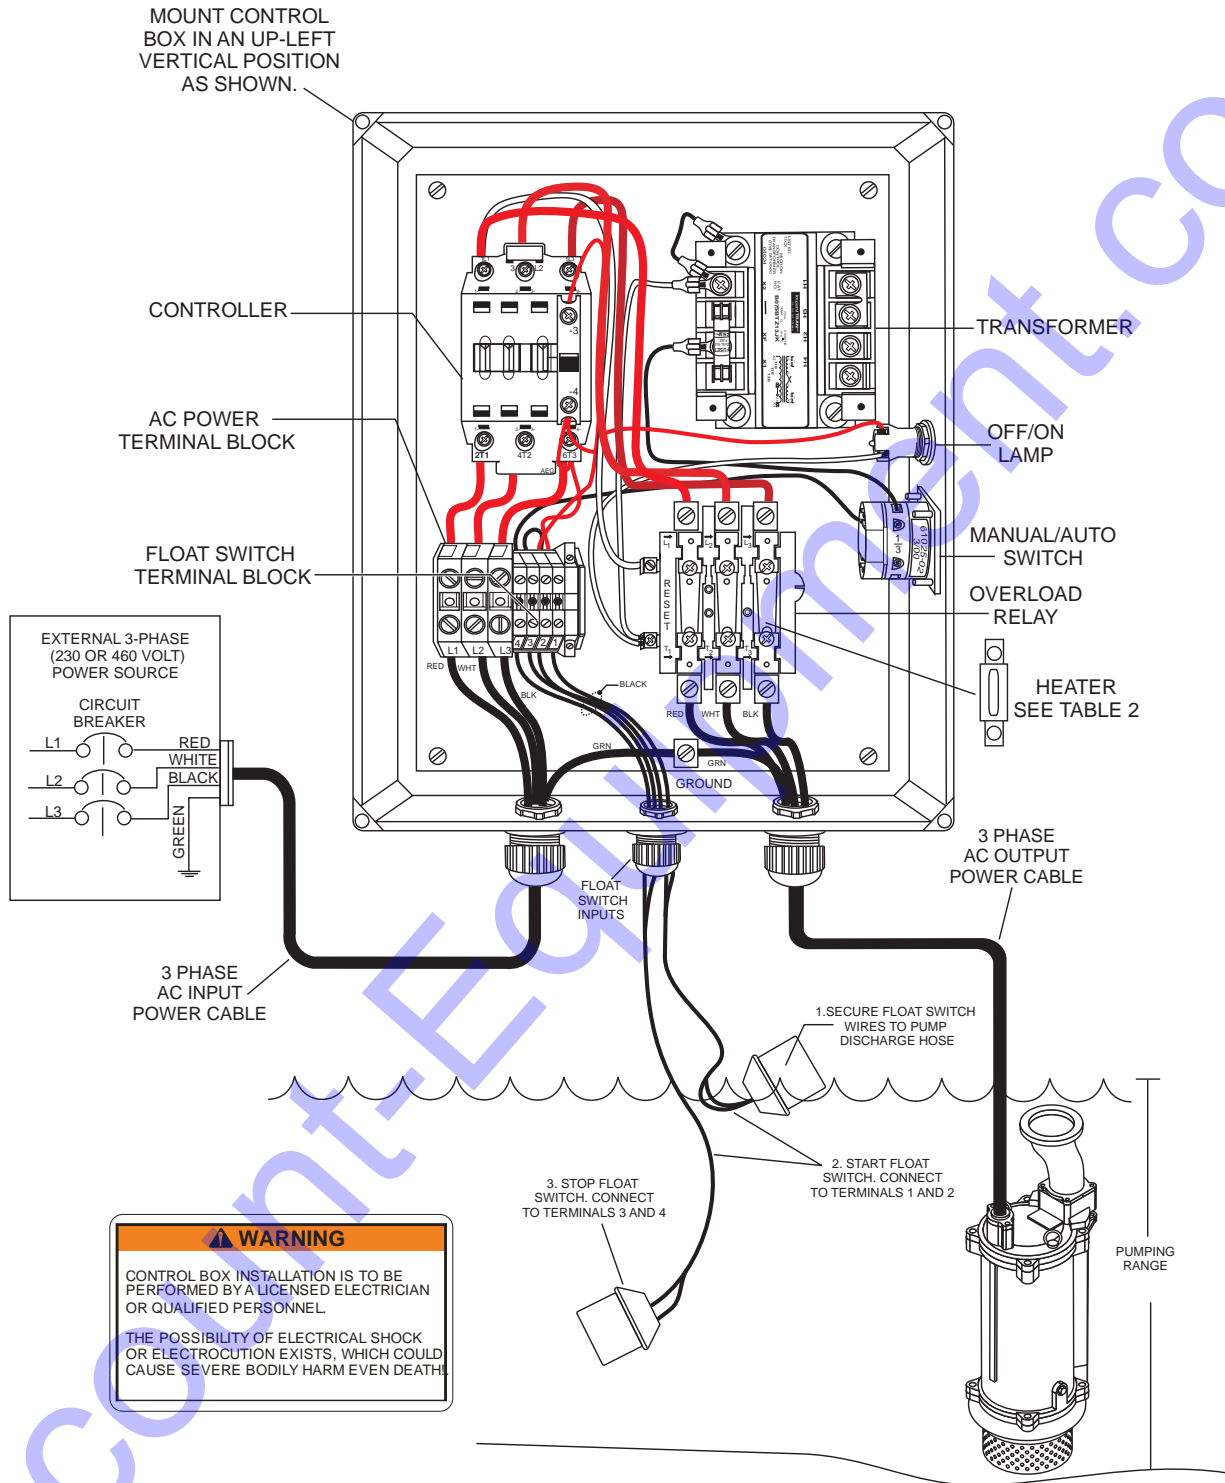

Figure 9. Three Phase Control Box/Pump System Diagram
1. Remove the float switch input connector housing, then route the float switch wires through the cable gland on the control box. Attach the wires of the float switch to the terminal block as indicated by Table 5 and Figure 9.
2. Remove the 3-phase AC input connector housing from the control box, then route the three phase input power cable through the cable gland on the control box. Attach the wires to the AC terminal block inside the control box as indicated by Table 6 and Figure 9.
2. Remove the 3-phase AC output power connector housing on the control box, then route the output power cable through the cable gland on the control box. Attach the wires to the AC terminals on the overload relay module as indicated by Table 7 and Figure 9.